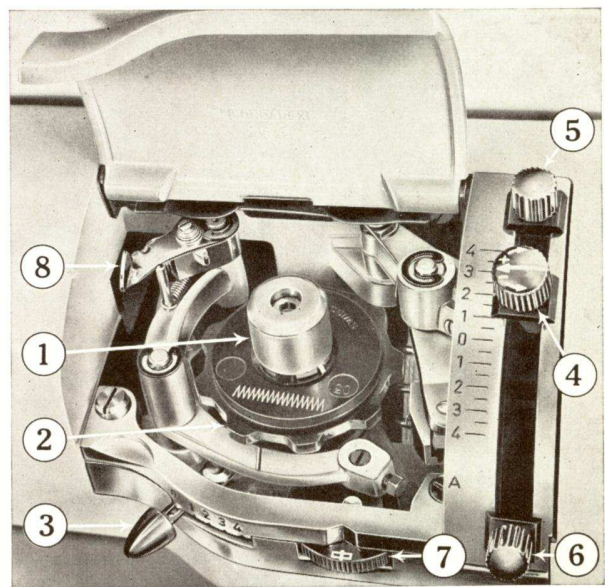

Fig. 21
For inserting an « Elna-disc », first set the stitch width lever (3) and the stitch length lever (4) at "0" (fig. 21). Then hold the simple or double « Elna-disc » between thumb and forefinger, with design on top, and place it on the Elnagraph axle 1 (fig. 23 a). The hole 3 must fit over the pin 2. On the simple « discs » this hole is visible from above. On the double « discs » this is not the case and the position of the hole is therefore marked with a white ring opposite the design. Push the « Elna-disc » down until it snaps in place (fig. 23 b).
To remove the « Elna-disc », first set the stitch width and stitch length levers at "0" (3, 4, fig. 21). By pressing on the push button 4 (fig. 23 c) at the upper end of the Elnagraph axle, the « Elna-disc » will pop up and need only be removed (fig. 23 d).
The position of the needle bar can be changed by turning the centering wheel (No. 7 of Fig. 21). The center position is shown below under "b". To move the needle bar to the left, turn the centering wheel toward the left (a) ; to move it to the right, turn the wheel to the right (c).